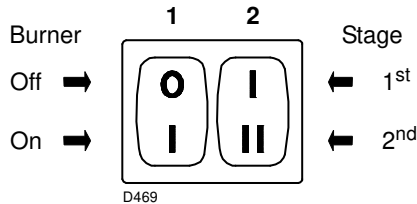
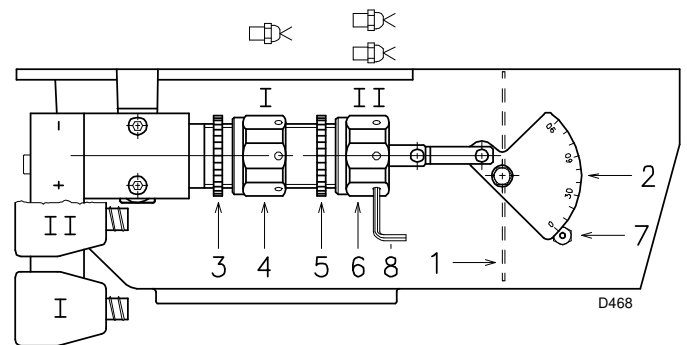

Fig. 24
Fig. 25
Set switch 1)(Fig. 24) to "ON".
Keep the burner operating at 1st stage by setting the switch 2) (Fig. 24) to the 1st stage position. Opening of the air gate valve 1)(Fig. 25) must be adjusted in proportion to the selected nozzle: the index 7)(Fig. 25) must be aligned with the specified in (Tab. J). This adjustment is achieved by turning the hex element 4):
notch 23° aligned with index 7 (Fig. 25).
Set switch 2)(Fig. 24) to the 2nd stage position and adjust the air gate valve 1)(Fig. 25) by turning the hex element 6), after having loosened the ring nut 5).
in order to facilitate adjustment of hex elements 4) and 6) (Fig. 25 on page 23), use a 3 mmc Allen key 8)(Fig. 25 on page 23).